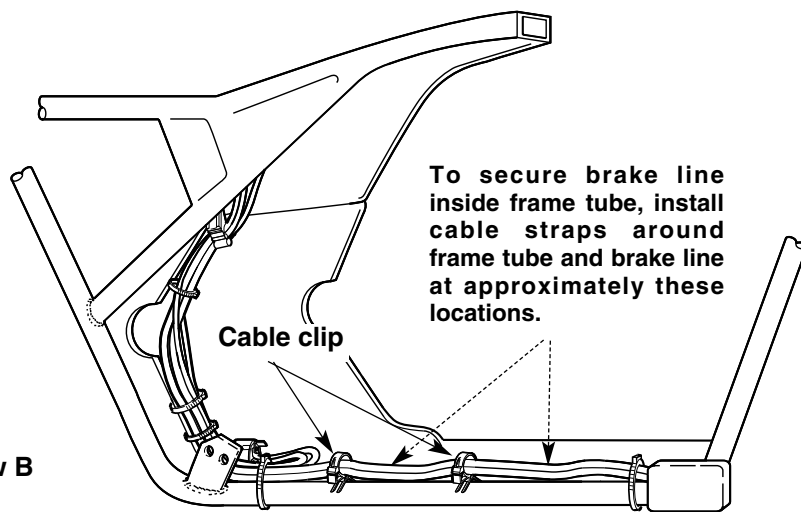

Figure 4. Relocating Brake Line To Prevent Interference with Clutch cable
- See Figure 4, View A. If clutch cable is touching brake line, do the following:
- See Figure 4, View B. Open both cable clips and gently move brake line out of clips and down along inside of lower frame tube.